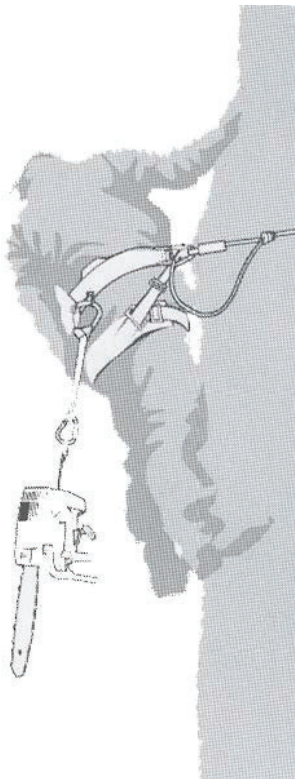

Figure A.2 — Example of attachment of tree service chainsaw to centre rear mid-point on harness
- f) The chainsaw should only be attached to the recommended attachment points on the harness. These may be at mid-point (front or rear) or at the sides. Wherever possible, the chainsaw should be attached to the centre rear mid-point to keep it clear of climbing lines and to support its weight centrally down the operator's spine. See Figure A.2.